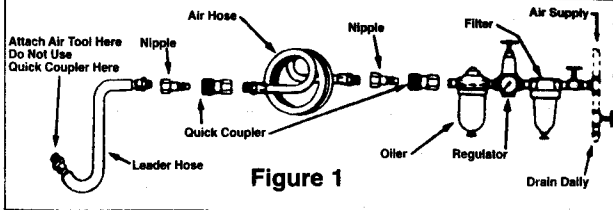

Figure 1
4. NEVER connect quick change couplings directly to the tool or air inlet. Use a leader hose (see Figure 1).